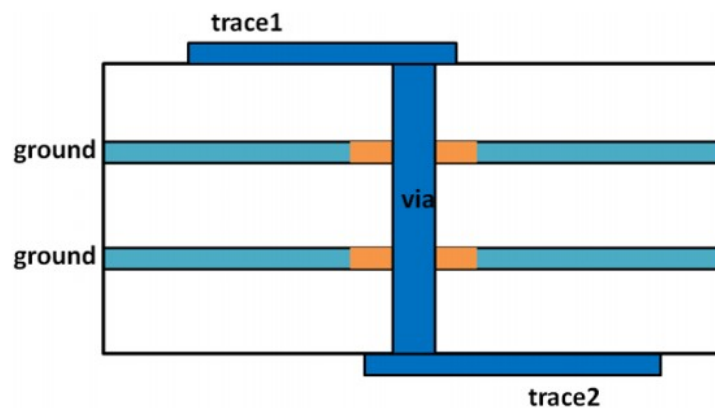
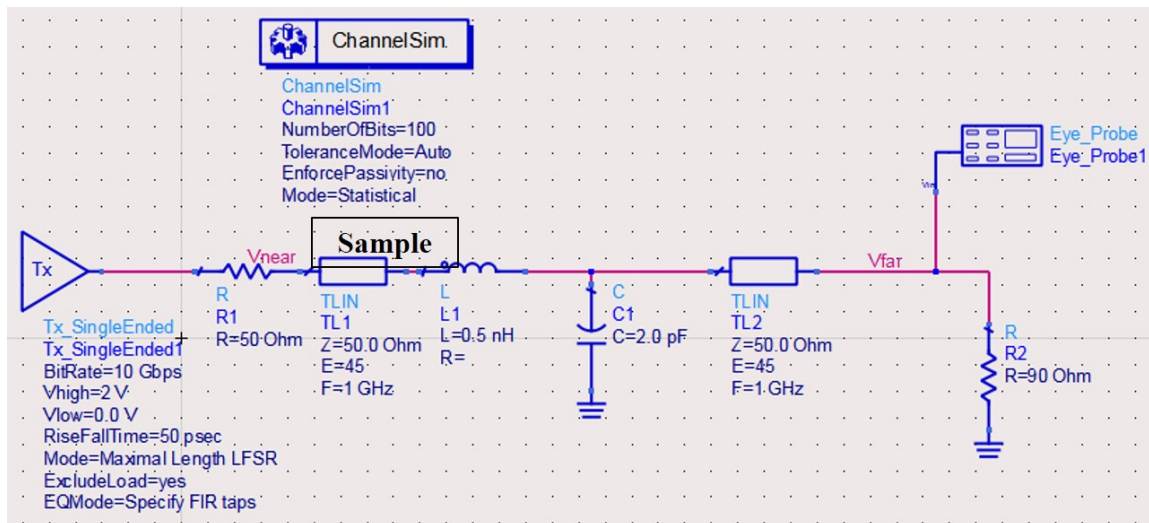
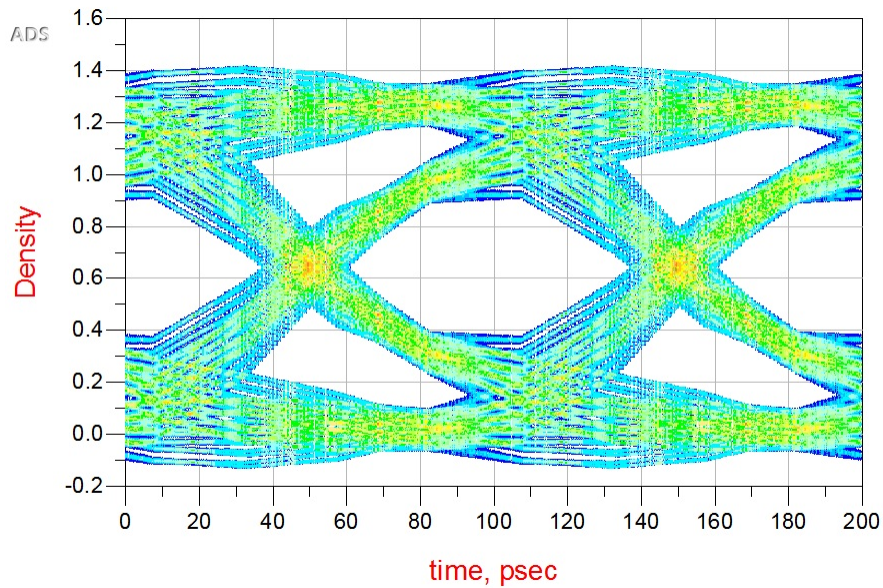

Figure 13: Transmission line discontinuity by *via* in multi-layer circuit
Figure 14: Simple model for Figure 13
Figure 15: Eye diagram of the receiver voltage in Figure 14
Let's do another example, this time, we will extend the design space to multi-layer circuits. Shown in Figure 13 is a simple cross-section of a multi-layer PCB where there are two (02) microstrip on two sides of the board, they are connected by a *via*⁴.
Figure 14 shows an equivalent circuit model for the structure in Figure 13 in which the via is modelled by a lumped circuit with $L = 0.5nH$ and $C = 2.0pF$. There are many factors have been ignored and we have an ideal case here. Set up the simulation as shown in Figure 14.
Obtain the eye diagram similar to Figure 15. You should be able to observe that the eye is bad even though we use ideal models in Figure 14.
Explain the reason why such a design in Figure 14 gives such a bad eye as in Figure 15. Try to fix the design, resimulate the circuit and obtain the new eye to prove your fix works. What is your conclusion about this?